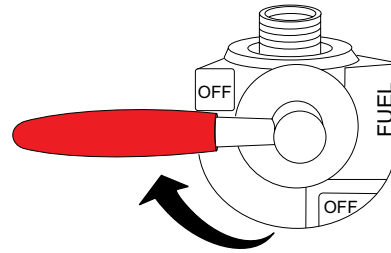

Figure 23. Fuel Tank ON/OFF Valve (OFF)
6. Place the fuel valve lever (Figure 23) in the **OFF** position.